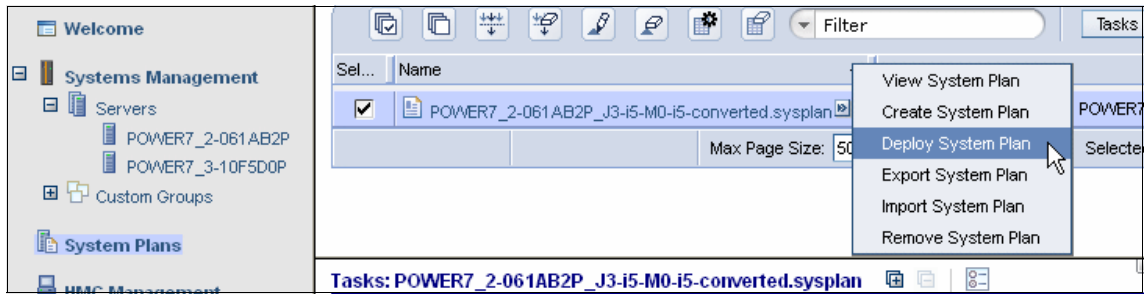

Figure H-7 Deploy System Plan
- Select **Deploy System Plan** as shown in Figure H-7 to start the Deploy System Plan Wizard.